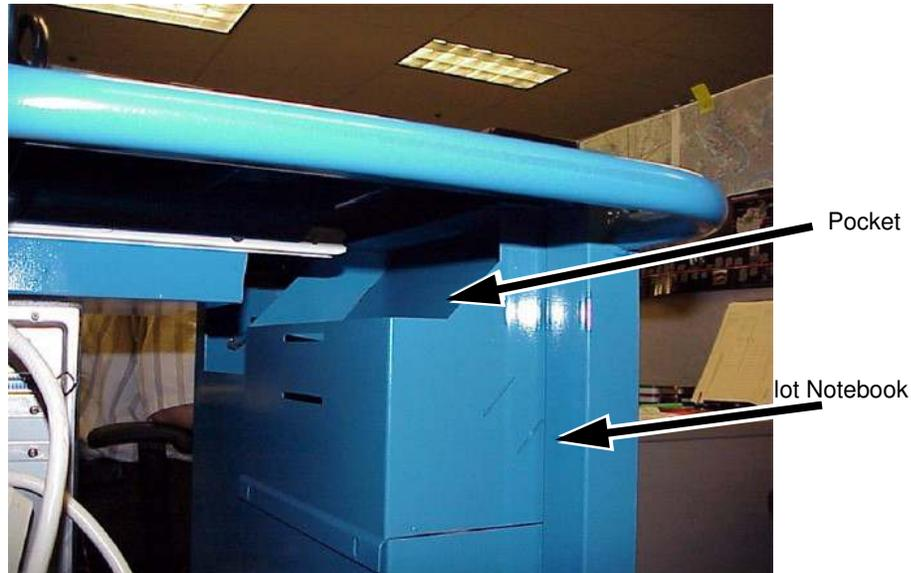

Figure 4. Installing Power to the Terminal (Monitor)
1. Install the power supply for the terminal (monitor) in the pocket provided behind the two-slot notebook holder. See Figure 4.